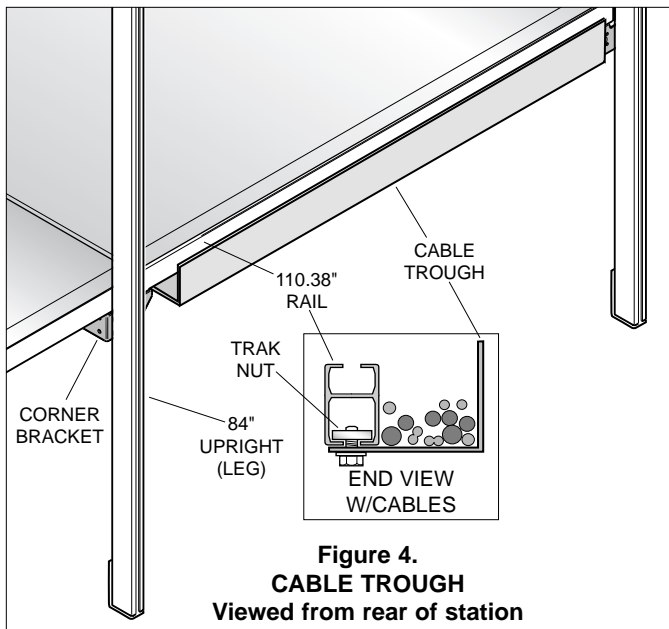

Figure 4.
- Position one 110.38" rail perpendicular to 84" rails. (This becomes rear of bench). Install cable trough by sliding tack nuts into one end of 110.38" rail (Fig. 4). Finger tighten.
- Center cable trough between 84" rails (Fig. 4). Tighten track nuts to secure.